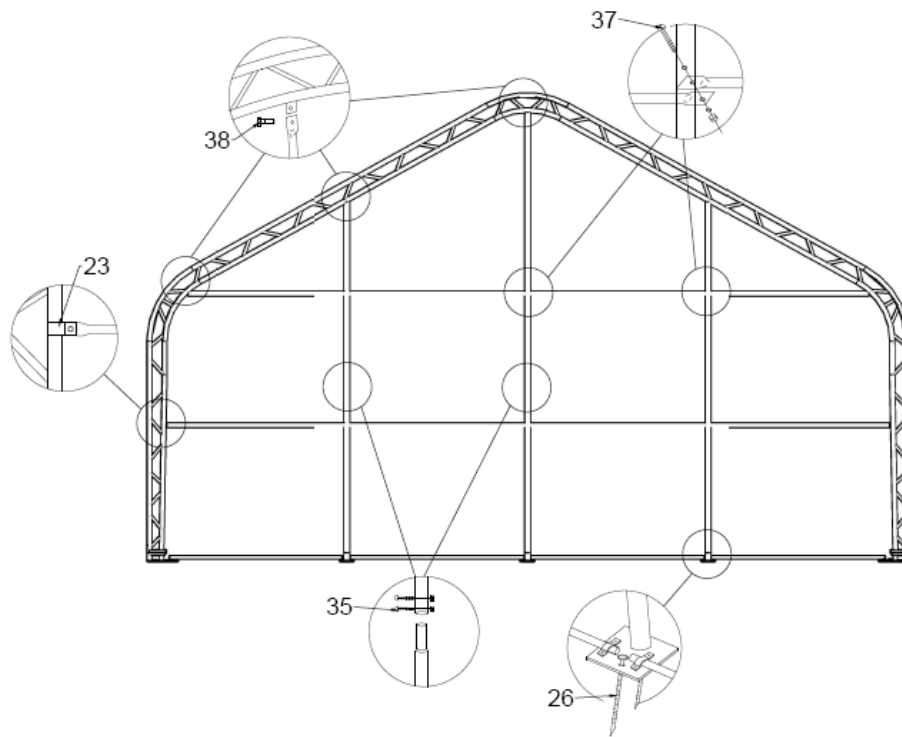

Figure 7: Front ,Middle and Back Wall Frame
1. Figure7 shows to assembly the door frame as above.